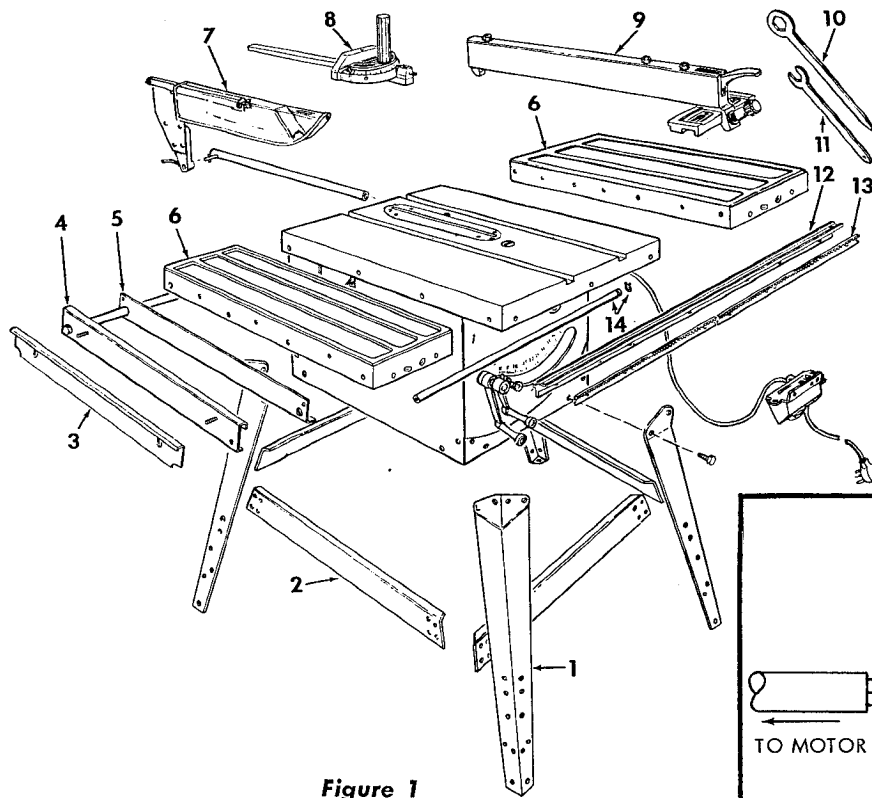

Figure 1
List of Loose Parts, Basic Saw (Package 15, figure 1)
List of Loose Parts, Auxiliary Fence (Package 16, figure 1)
List of Loose Parts, Leg Assembly (Package 17, figure 1)
List of Loose Parts, Extension (Package 18, figure 1)
1. Remove the "loose" parts; clean the parts and the basic saw assembly thoroughly. (See figure 1.) Items having a rust-preventive coating, (saw table, etc.) may be cleaned with a cloth saturated with kerosene. Wipe other parts with a clean, dry cloth.